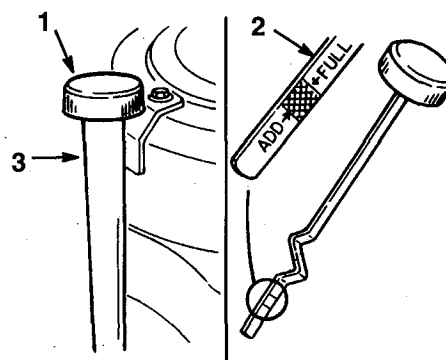

Figure 33
3. Clean around the oil dipstick (Fig. 33) so dirt cannot fall into the filler hole and damage the engine.
4. Unscrew the oil dipstick and wipe the metal end clean (Fig. 33).
5. Screw the oil dipstick fully onto the filler tube (Fig. 33). Unscrew the dipstick again and look at the metal end. If oil level is low, slowly pour only enough oil into the filler tube to raise the level to the "FULL" mark.
6. Slowly pour approximately 80% of the specified amount of oil into the filler tube (Fig. 33). Now check the oil level; refer to Checking Oil Level, page 31, steps 4–5.